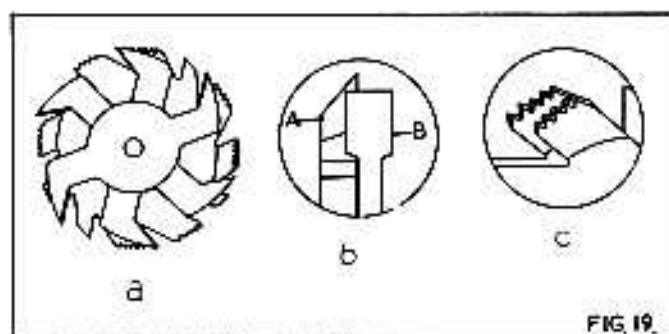

FIG. 19.
A dado head is made up of two outside saws and 5 inner cutters. Various combinations of saw and cutters are used to cut grooves from 1/8" to 1" wide (3mm to 25mm). Inner cutters are heavily swaged and must be arranged so that the heavy portion falls in the gullets of the outside saw as shown on Fig. 19 (1). Fig. 19 (b) shows how the saws and cutters overlap "A" being the saw and "B" being the inside cutter. A 1/16" (6mm) groove is cut by using the two outside saws fitting the ground teeth directly opposite as shown in Fig. 19 (c) in order to allow clearance for the slight set of the saw teeth.